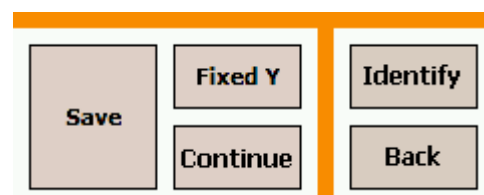

Figure 32. The Search Mode, Paused.
- To pause a search acquisition, tap **Pause**. The **Pause** button will change to **Continue**, as shown in Fig. 32. Tap **Continue** to resume the search. The display will be continuous, that is, it will not show a gap that spans the paused time.